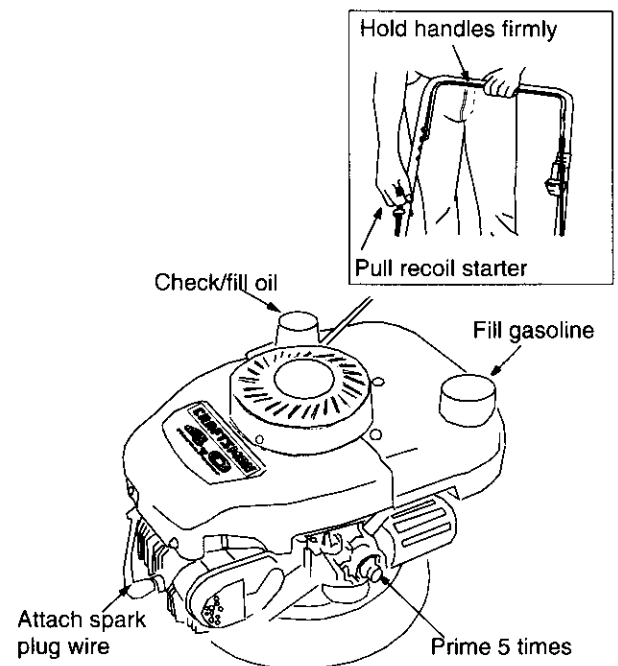

Figure 9
- Clean area around gas tank cap. For location of gas tank cap, see Figure 9. Remove cap.
(Refer to Figure 9.)
- Hold blade control handle against the upper handle. Grasp recoil starter and pull rope out slowly until engine reaches the start of compression cycle (rope will pull slightly harder at this point). See Figure 9 inset. Let the rope rewind slowly.